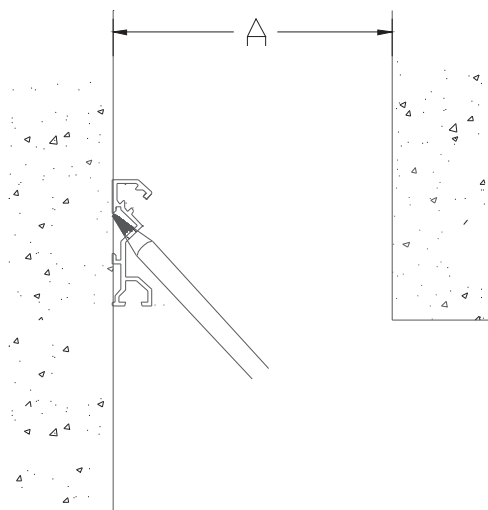

Figure 3
STEP 4. Using the base member as a template, mark the locations for the anchor holes on the substrate, see Figure 3.